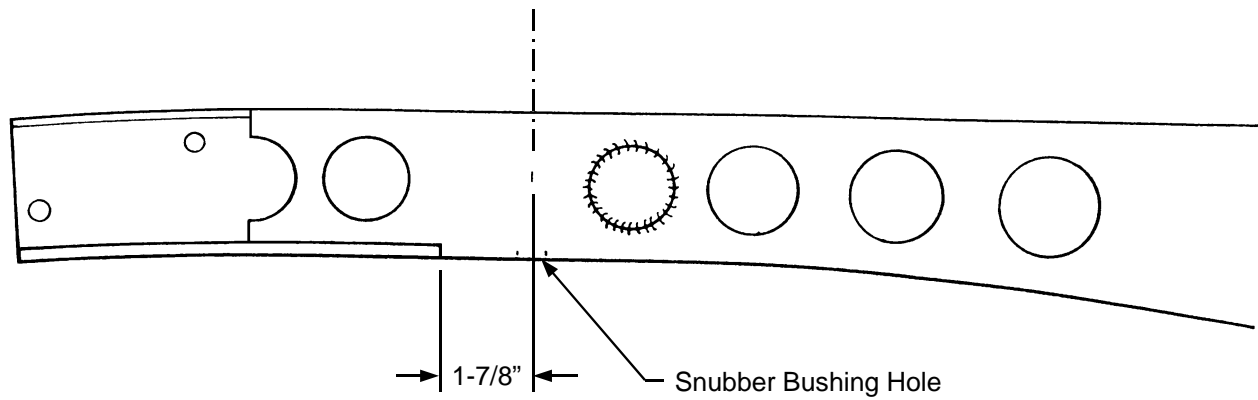

Figure 1
4. Preparing the frame. The first step is to plug the two large holes on the inside of the frame just slightly rearward of the axle centerline (Figure 1). Two round plugs are supplied to fill the holes. Weld in place flush with the inner frame rails and grind smooth.
5. The next step is to scribe a line around the frame rails using the center of the rubber snubber holes from step 2. This will be the axle centerline. Now, on the inner lower flanges of the frame rails, the flanges must be trimmed to the 1-7/8" dimension shown in Figure 1.